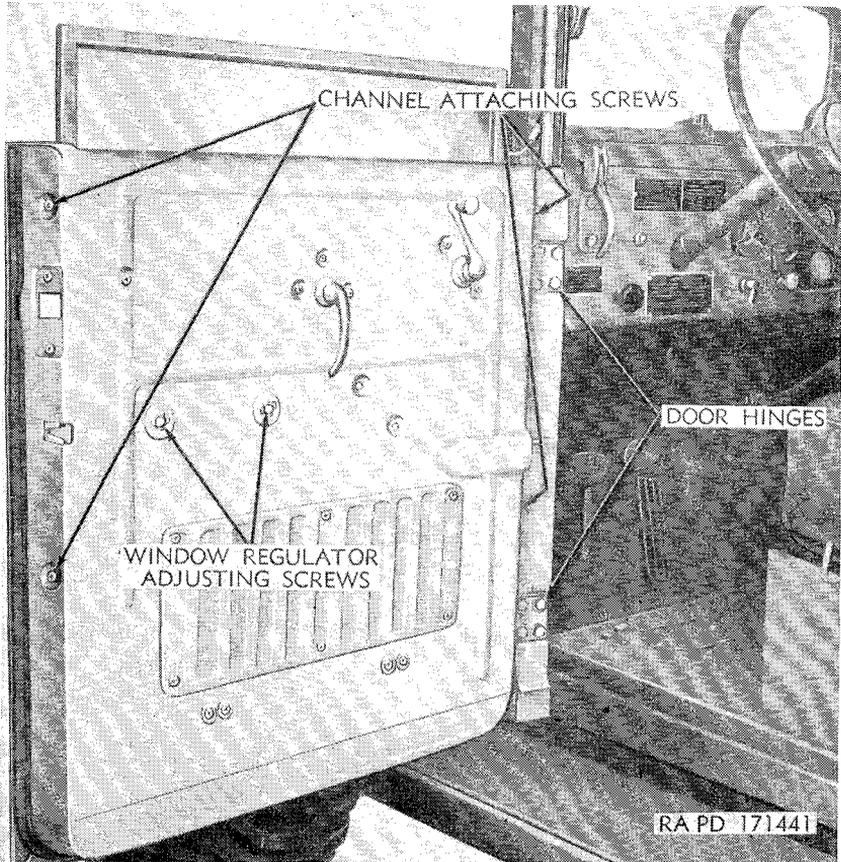

Figure 11. Left door open to show adjusting screws.
*b. Door-glass alinement.* To check the alinement of the door glass in the cab opening, move the glass up within 1 inch of the top and note if the glass frame is square in the opening. If the glass is not in proper alinement, loosen the two regulator adjusting screws (fig. 11) and move either corner of the glass up or down. Tighten the two screws.
*d. Door-glass angle adjustment.* If repositioning of the weatherstrips (*c* above) does not result in a satisfactory contact with the door-glass frame at the sides and top, a change in the glass angle may be necessary. This is done by loosening the channel attaching screws at inner and outer edges of the door (fig. 11) and moving the channels inward or outward to change the angle of the glass. Tighten the screws.
*e. Door-glass frame to upper weatherstrip fit.* If the contact between the door-glass frame and the upper channel is not uniform, loosen the two regulator screws (fig. 11) and aline the door glass as required. Tighten the screws.
*f. Door-hinge adjustment.* If the door-glass frame protrudes at the top and proper alinement cannot be accomplished by adjustment of the weatherstrip retainers or the lower channels, it may be necessary to reposition the door hinges (fig. 11). This is done by loosening the four hinge attaching screws on the cowl hinge pillar as the screw holes in the hinges are elongated. If it is necessary to tilt the door inward at the top, loosen the lower hinge screws, force the lower hinge outward the desired amount, and retighten the screws. Loosen the top hinge screws to correct any distortion that may have occurred at the top hinge. Tighten the screws.